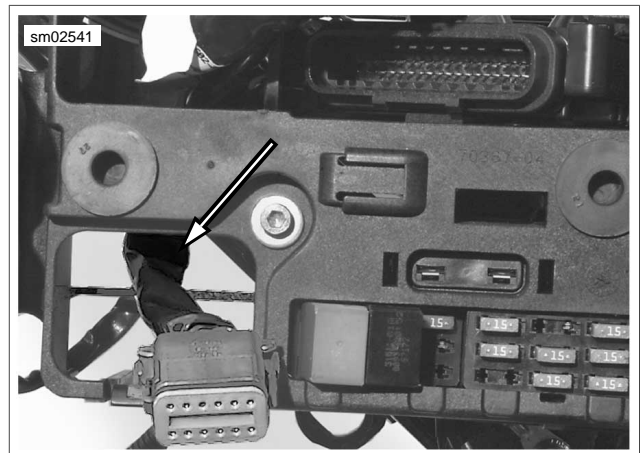

Figure 8-5. TSM/TSSM/HFSM Wiring
5. See Figure 8-5. Route TSM/TSSM/HFSM wiring through rear of electrical caddy as shown.